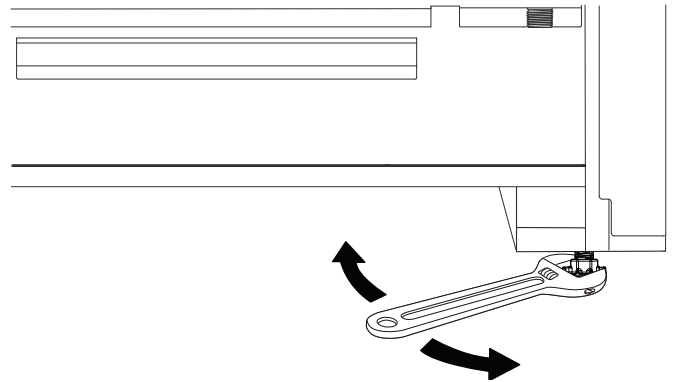

Figure 27: Leveling Legs
2. Rotate the legs using a 12" (305 mm) adjustable wrench on the flat sides of each foot. Progression of the height adjustments should be alternated proportionally between the four corner legs, until the top edges of the range's side panels are close to matching the counter top height (*Figure 27*).